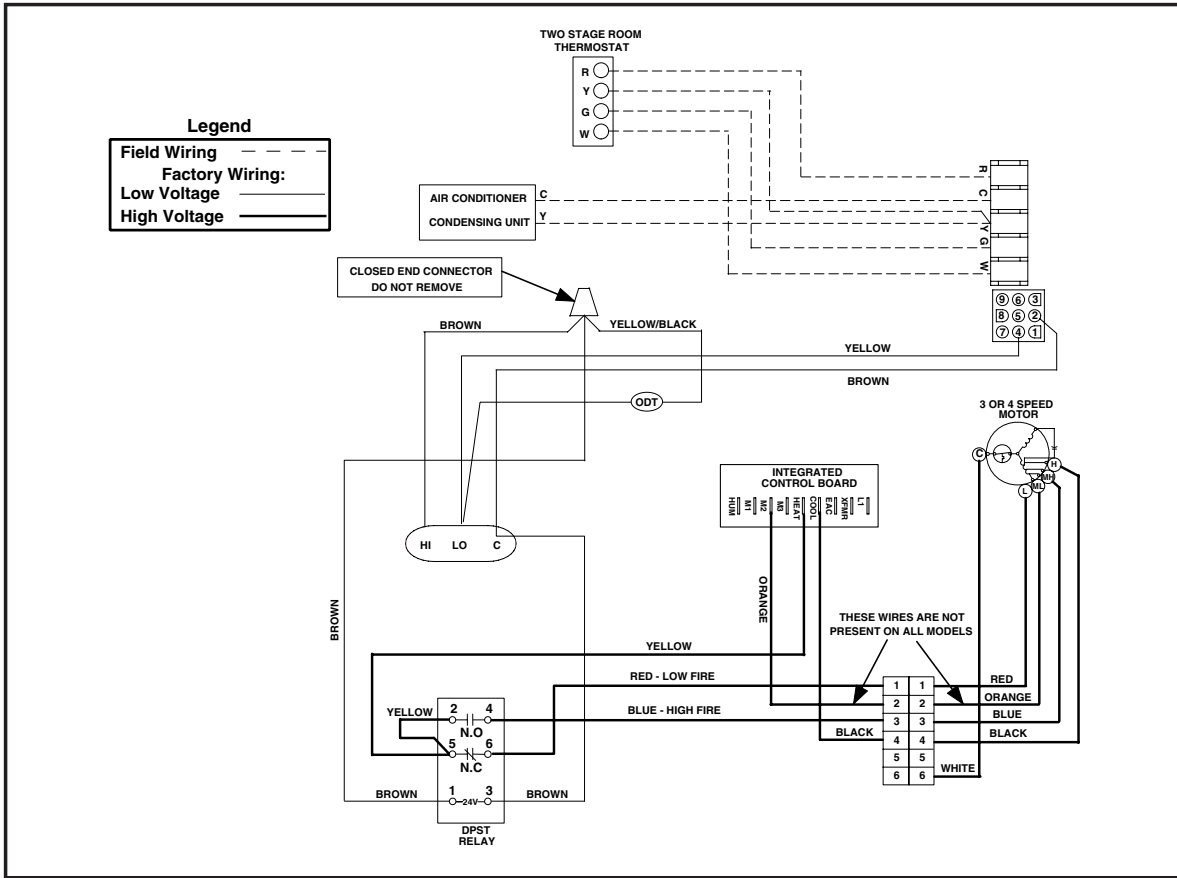

Figure 31. Outdoor Ambient Dependent
4. *Outdoor ambient dependent configuration* – For this installation, the high and low terminals are connected in parallel with an outdoor thermostat (open on rise style) in series with the high terminal (See Figure 31). **CAUTION:** DO NOT CONNECT W2 from outdoor thermostat to the furnace wiring when using the outdoor ambient dependent configuration. When the outdoor temperature is above the set point, the outdoor thermostat opens keeping the high terminal closed. The furnace operates in the low fire mode at a lower blower speed. When the